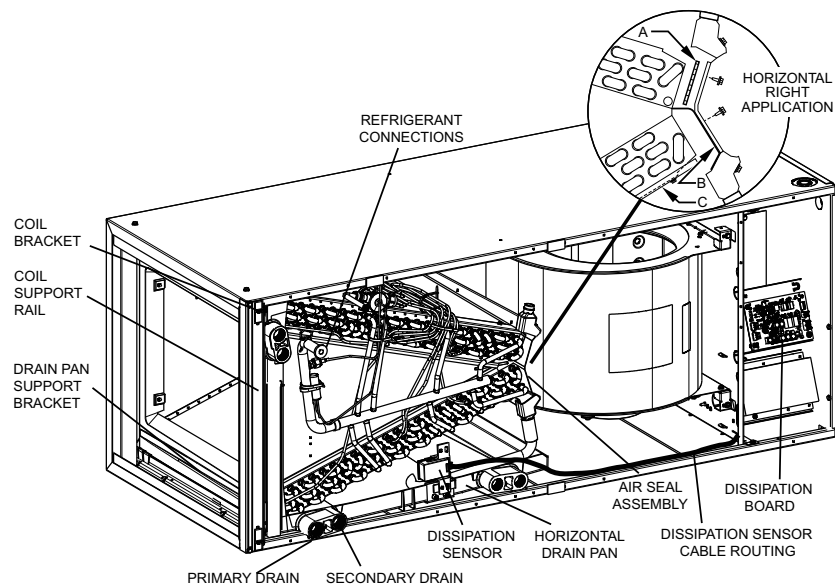

Fig. 5 – Conversion for Horizontal Right Applications - A-Coil Only
1. Remove blower and coil access panels (Fig. 5).
- a. Remove air seal assembly from coil by removing 4 screws (Fig. 5).
- c. Remove filler plate (A) and install air splitter (B) in place of filler plate.
- d. Install filler plate (A) as shown in horizontal right application.
- e. Remove condensate troughs (C) and install on opposite tube sheets.
12. Reconnect the sensor wire harness by following the routing shown in Fig. 5.